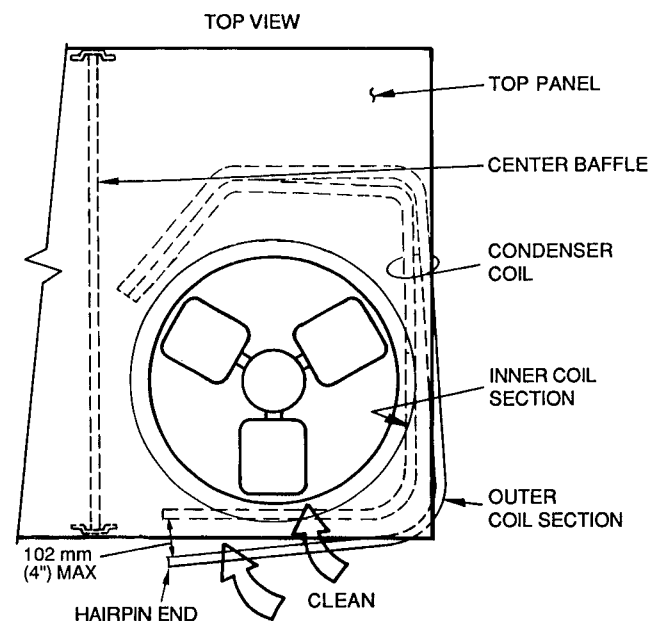

Fig. 35 — Separating Coil Sections
10. Carefully separate the outer coil section 3 to 4 in. from the inner coil section. See Fig. 35.